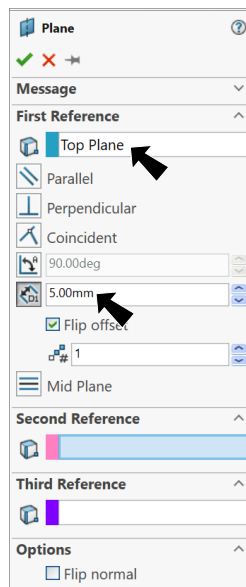

**Fig. 47**
Step 2. In graphics area **Ctrl drag Top plane to up** and release, **Fig. 47**.
The new plane should be above, **Fig. 47**.